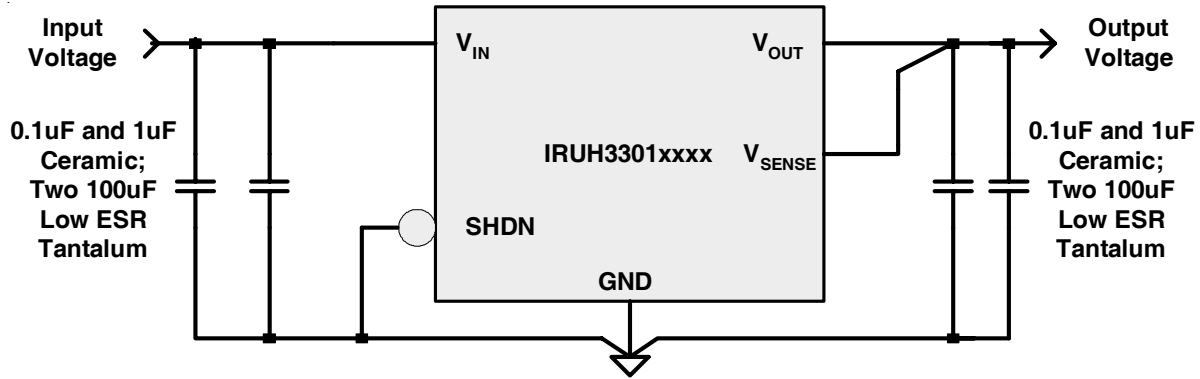

Fig. 1. Typical Regulator Circuit; Note the SHDN Pin is hardwired in the "ON" position.
① Connected as shown in Fig.1 and measured at the junction of V_{OUT} and V_{SENSE} Pins.
② Under normal closed-loop operation. Guaranteed by design. Not tested in production.